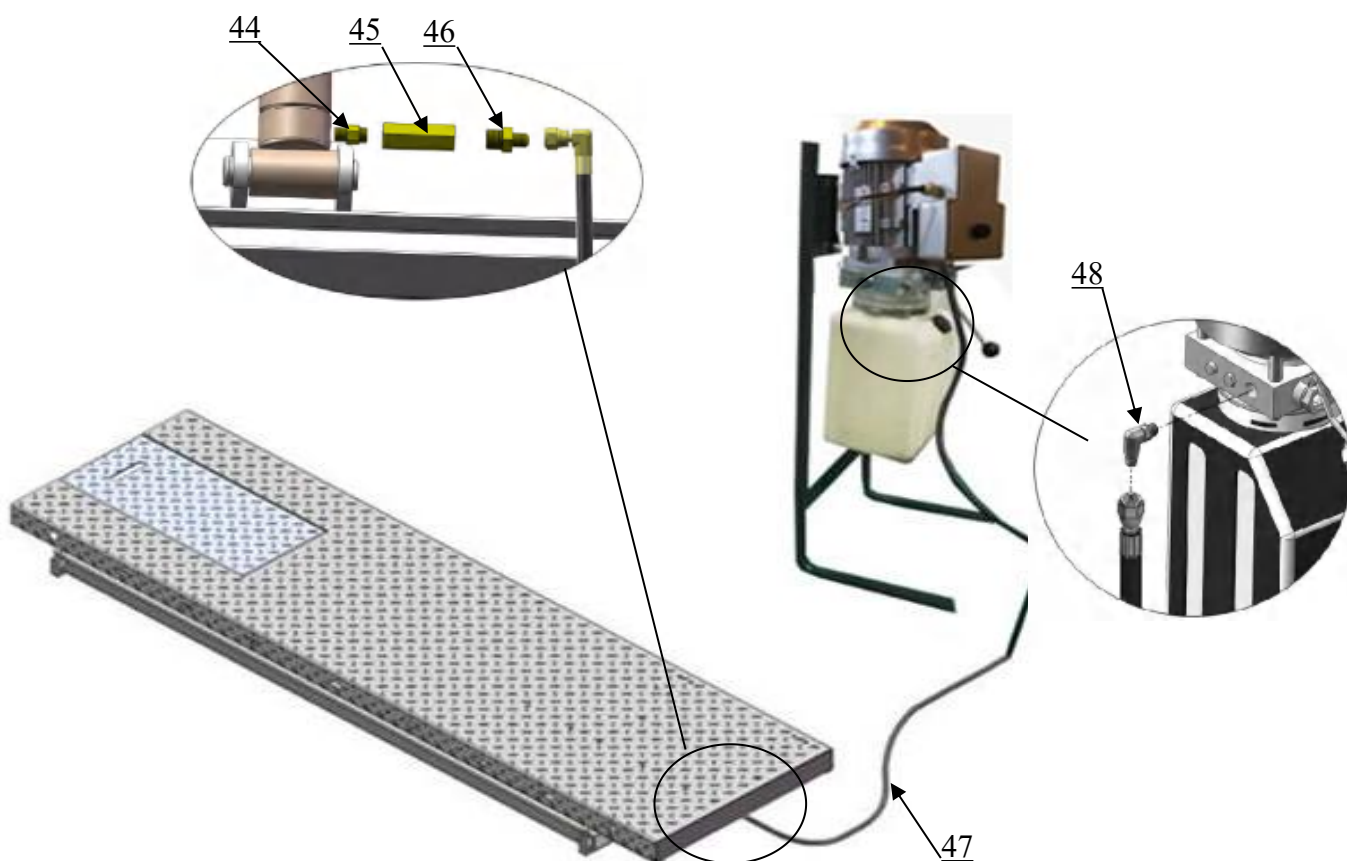

Fig.6
B. Put the lift and control cabinet in good order and connect the oil hose, see Fig.6